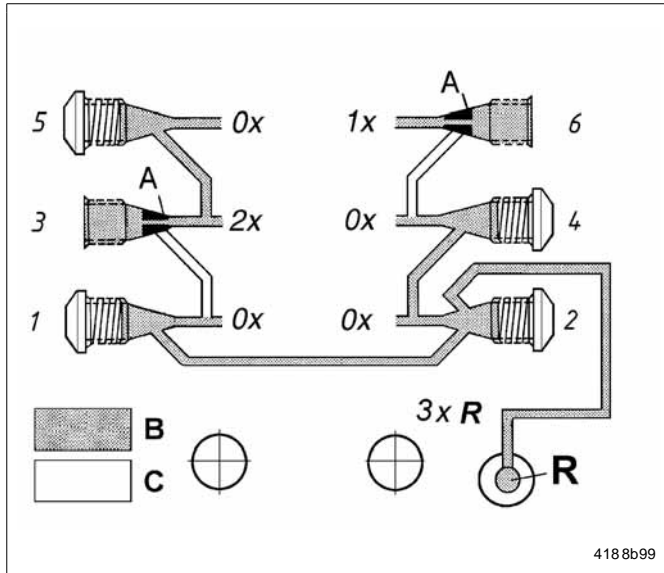

Fig. 1-4 Internal feedback of supplied lubricant, only on back-side mounted SSV divider blocks
- All pumps with **back-mounted SSV metering device** have the capability to feed unused lubricant back internally from closed outlets directly to the reservoir (see R, fig. 1-4).